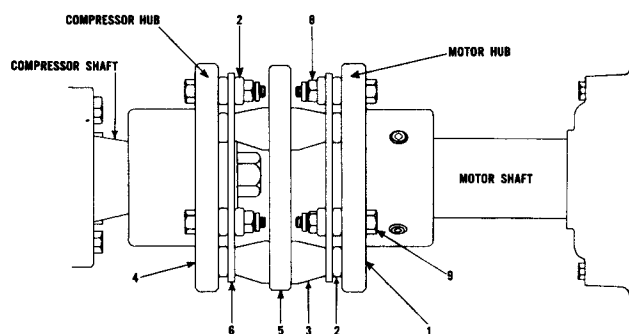

FIGURE 3
3. With reference to Fig. 3, remove nuts (Ref. No. 4) from long through bolts (Ref. No. 1) and draw bolts through openings in the flange of the motor hub. As through bolts are being removed, use care to prevent loss of bevel washers (Ref. No. 2) and spacers (Ref. No. 3). As the last long through bolt together with its bevel washers and spacers is removed, the center flange (Ref. No. 5) is freed and removed.